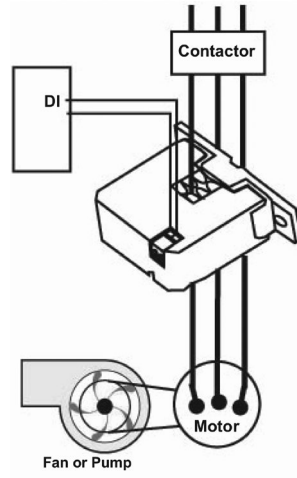

Fig. 3 Model SSC Typical Wiring
3. Wire SSC output terminals to the control box Digital Input (DI) terminal (30 V max. terminal voltage). *Note: the output switch contacts are solid state, and they work just like dry contacts. When the output switch is closed, less than 1 ohm is present; when the output switch is open, more than 1 ohm is present.*
4. Close the enclosure and reconnect power to the power conductor cable. (For wiring example, see Figure 3.)